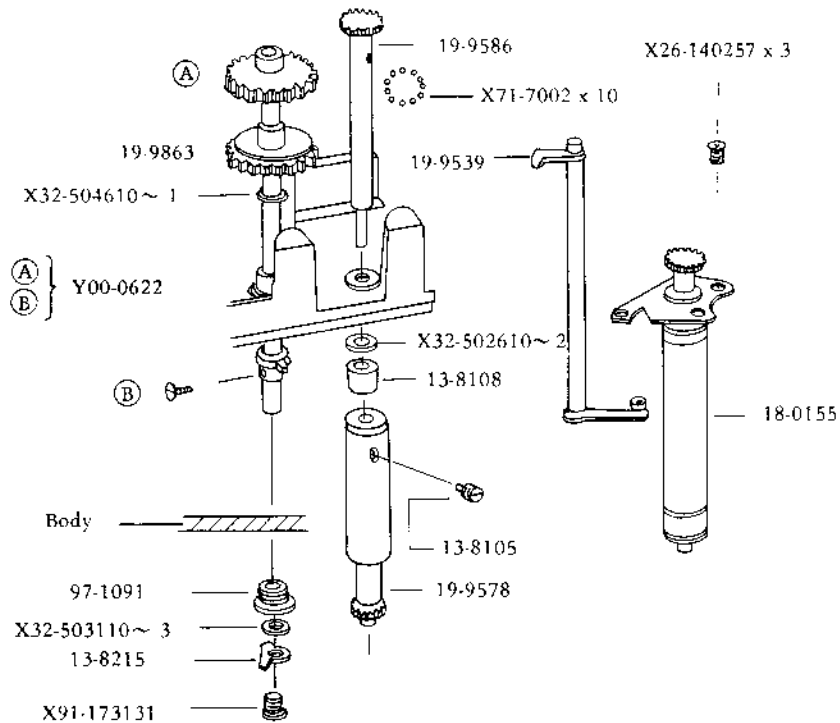

Fig. 12
- 2) Mount the parts in the order shown in Fig. 12.